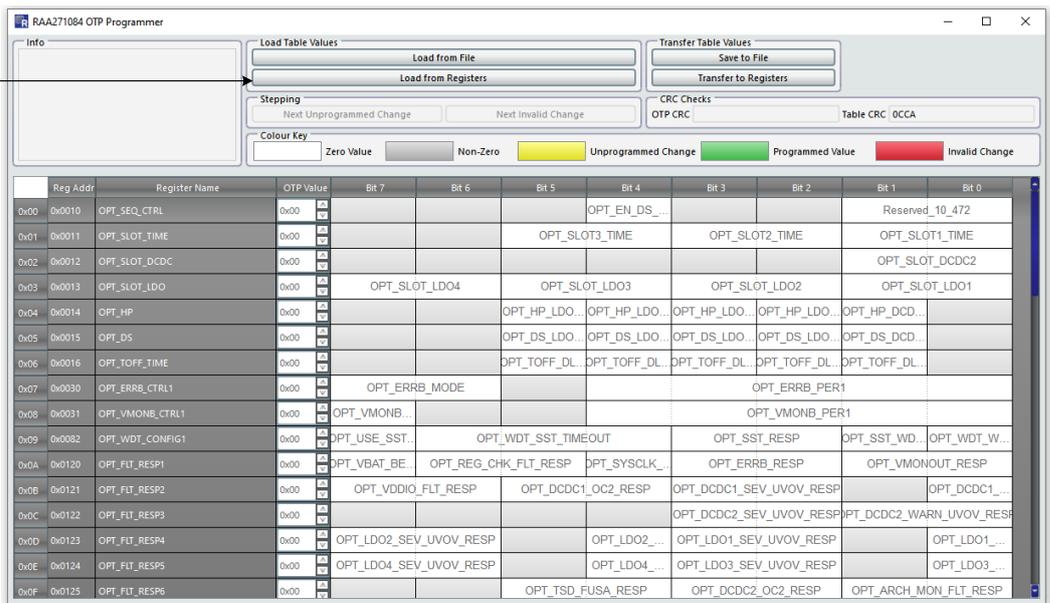

Figure 6. Import OTP Changes from Default Configuration
4. In the OTP programmer screen, click **Load From Registers** (Figure 6).